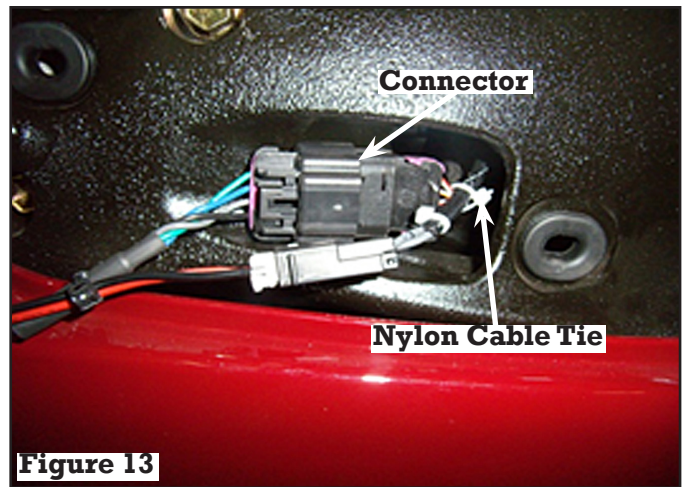

Figure 13
- The RH speaker wire coming from the amplifier (the longer of the two speaker wires) should be routed and secured using two cable ties along the main vehicle harness. See Figure 11. Route the connector so that it comes through the window on the RH side of the frame next to the RH saddlebag lock harness connector. See Figure 13. Secure the RH speaker wire to the RH saddlebag lock harness connector using a nylon cable tie. Connect the RH speaker wire coming from the RH saddlebag to the speaker connector coming from the amplifier.